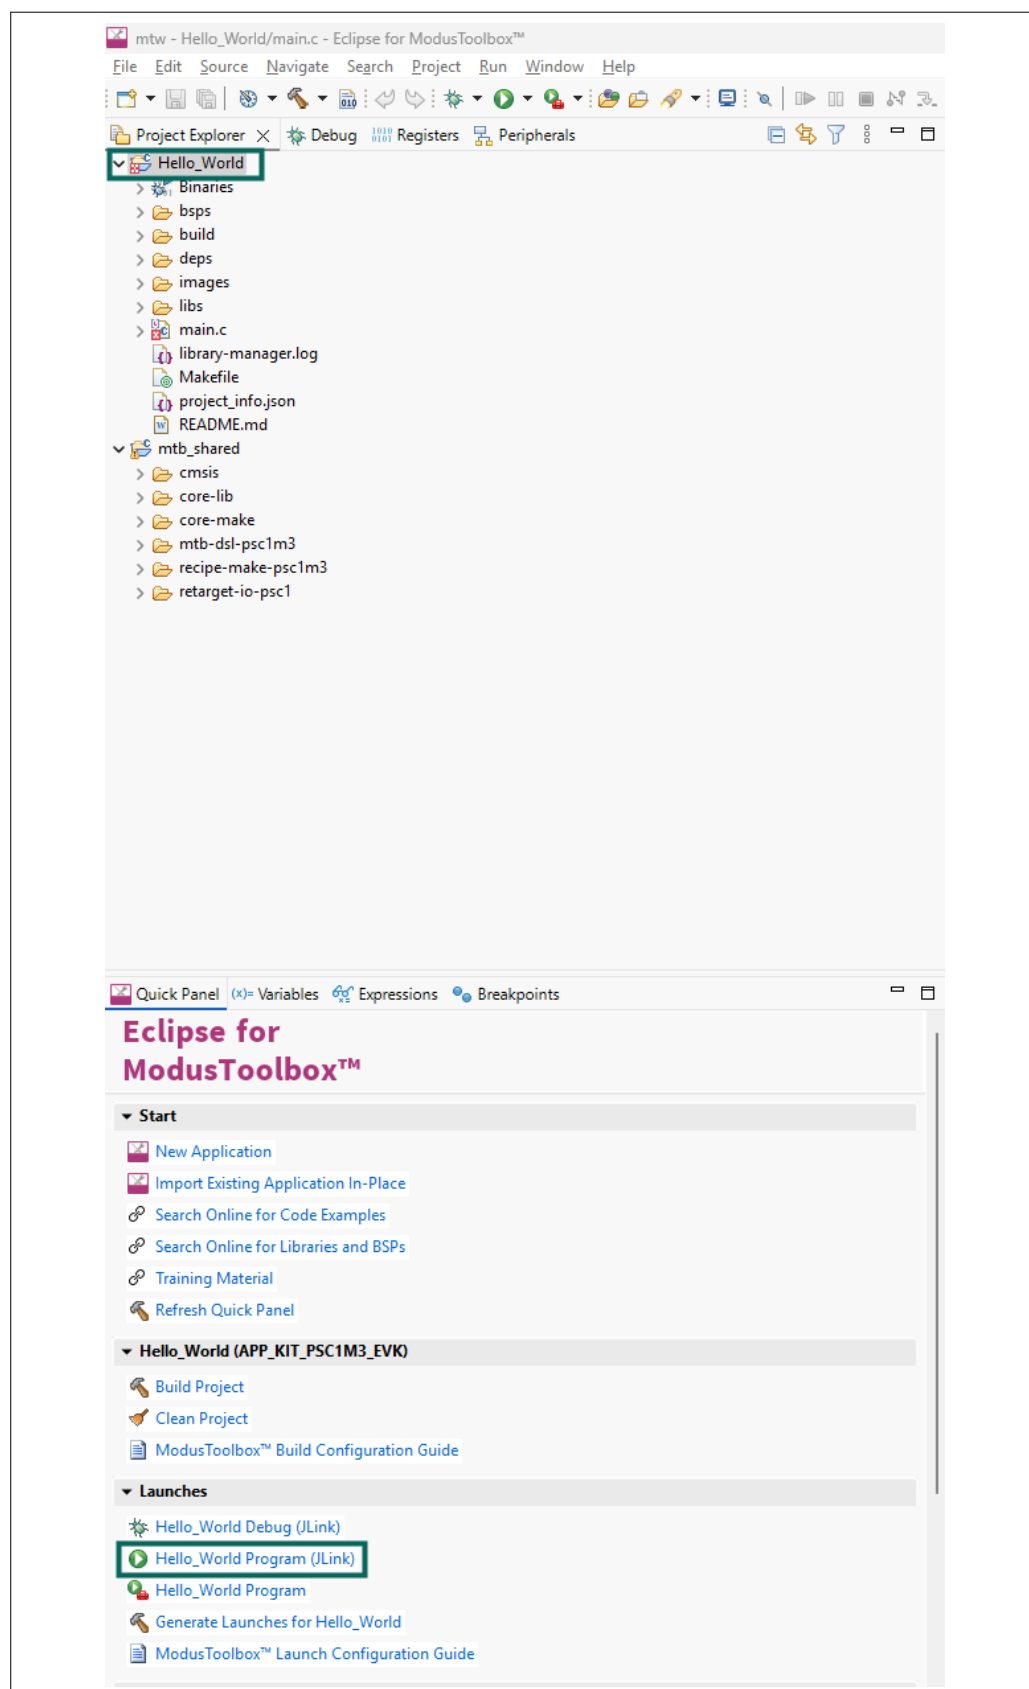

Figure 14 Programming an application to a device
- a. Select the application project and click on the **Hello_World Program (JLink)** under the **Launches** group in the Quick Panel, as Figure 14 shows. The IDE will select and run the appropriate run configuration. Note that this step will also perform a build if any files have been modified since the last build